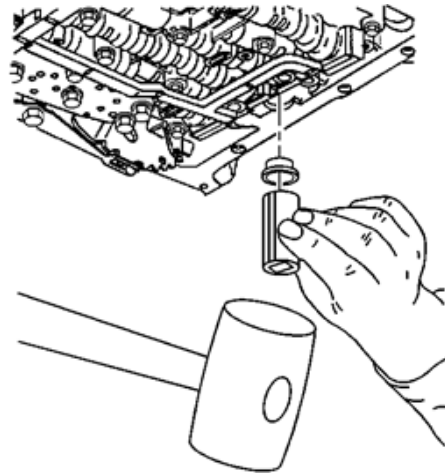

Figure 8
- 23. Install the new filter seal into the transmission case. Tap the seal into place using a suitable size socket. **Reference Figure 8.**